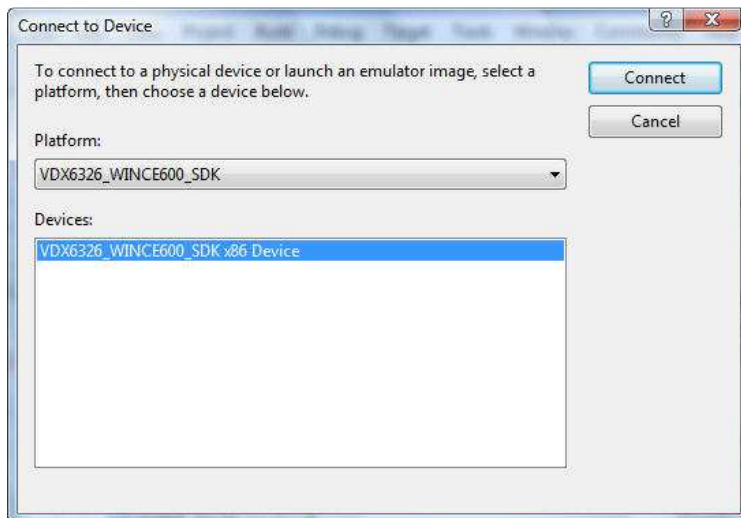

Fig. 59 - Connect to Device (SBC)
- From VS2005 IDE, select **Tools | Connect to device...** and select **VDX6326_WINCE600_SDK** from the list of available devices, and click on the **Connect** button, as shown in Figure 59.